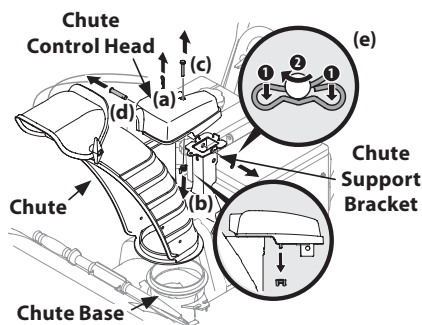

Figure 2-29
1. Remove cotter pin (a), wing nut (b) and hex screw (c) from chute control head. Remove clevis pin (d) and bow-tie cotter pin (e) from chute support bracket. See Figure 2-29.